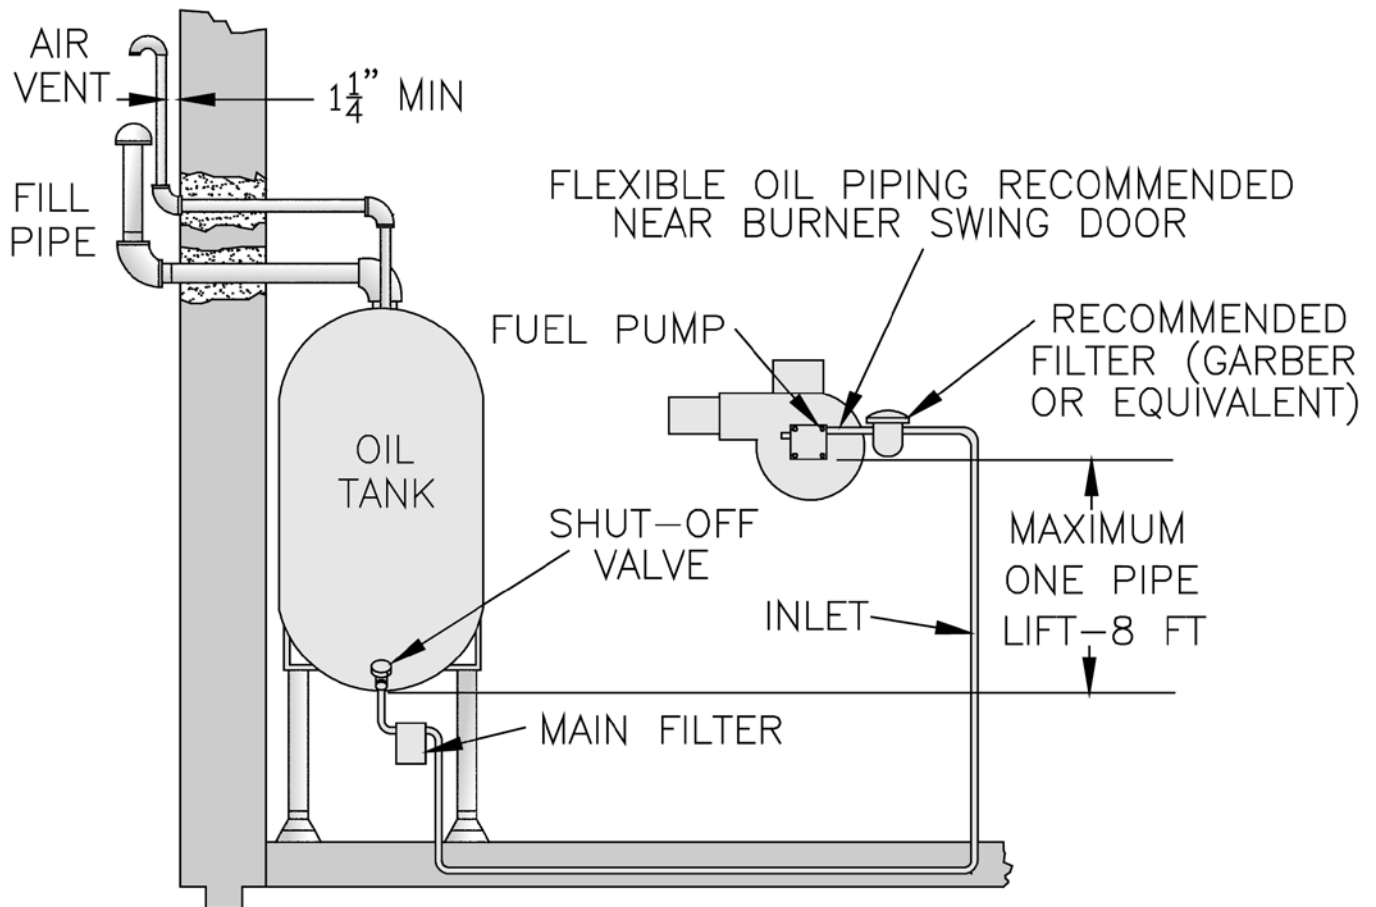

Figure 14: Single-Pipe Installation
2. The single-stage fuel unit may be installed single-pipe with gravity feed or lift. Maximum allowable lift is 8 feet. See Figure 14.